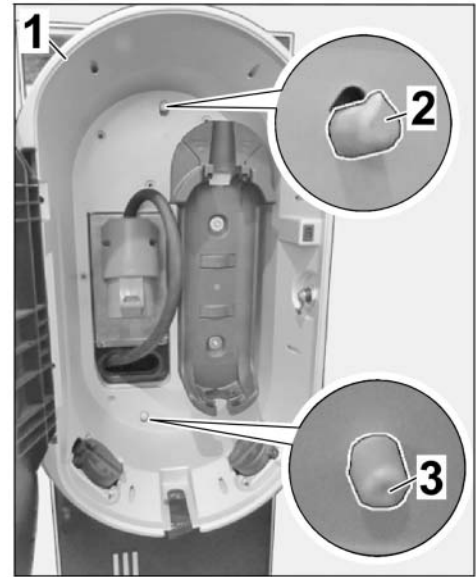

Figure 24
- 5.2.1 Position charging dock ⇒ *Figure 24 -1-* inclined slightly towards the rear on the top pin ⇒ *Figure 24 -2-*.
Position charging dock on the bottom pin ⇒ *Figure 24 -3-*.